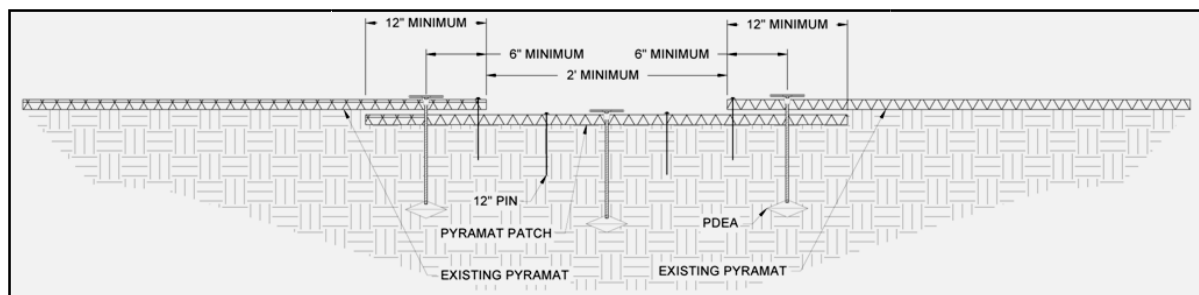
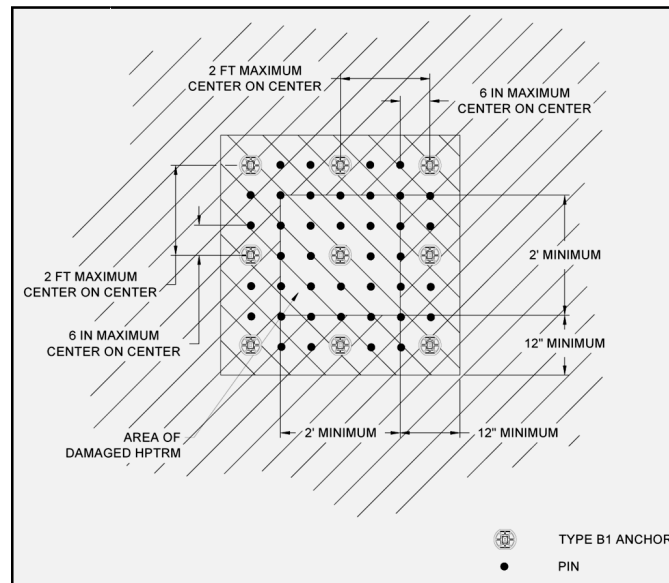

Figure 28: ArmorMax Patch Cross Section
Figure 29: ArmorMax Patch Plan View
3. To repair ArmorMax, cut out and remove damaged areas in a square configuration a minimum size of 2 ft by 2 ft. Remove all vegetation and debris atop of ArmorMax. Loosen the top 1 to 2 in of soil in the patch area then seed. The subgrade of area to be patched shall be prepared to be smooth and uniform and transition smoothly into the in-situ area. Cut a square Pyramat patch a minimum of 12 in greater than the damaged area for all four sides of the patch. Overlap the patch area in all directions a minimum of 12 in. The patch overlaps shall be tucked under the existing damaged Pyramat material (Figure 28 and Figure 29).